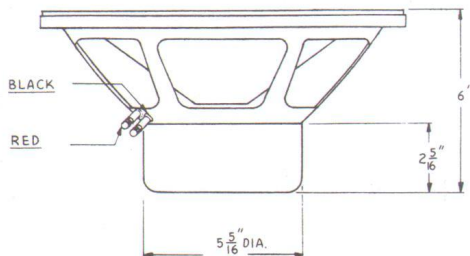

Fig. 1 — Dimensions
**MOUNTING THE SPEAKER** — Cut a circular hole 11 inches in diameter. Four 1/4-inch mounting holes are provided on the outer periphery of the speaker frame. Use four #12 x 1 1/2-inch long wood screws, or preferably drill four 1/4-inch holes on a 1 1/2-inch circle spaced 90 degrees apart (See Fig. 1 for hole arrangement), and employ four 3/16-inch carriage bolts 2 inches long with hex nuts and washers. Secure the speaker to the front baffle and tighten the retaining screws just enough to compress the speaker gasket. Do not tighten too much or the frame may be sprung out of line, resulting in damage to the speaker unit.